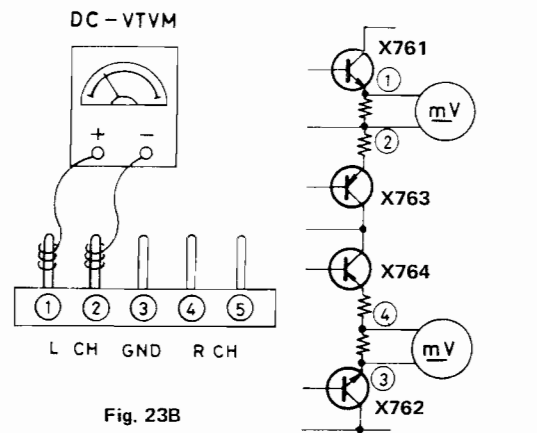

Fig. 23B
4. Connect ground lead of DC VTVM to pin 2 (pin 4) and connect probe of DC VTVM to pin 1 (pin 5). Refer to Fig. 23B.